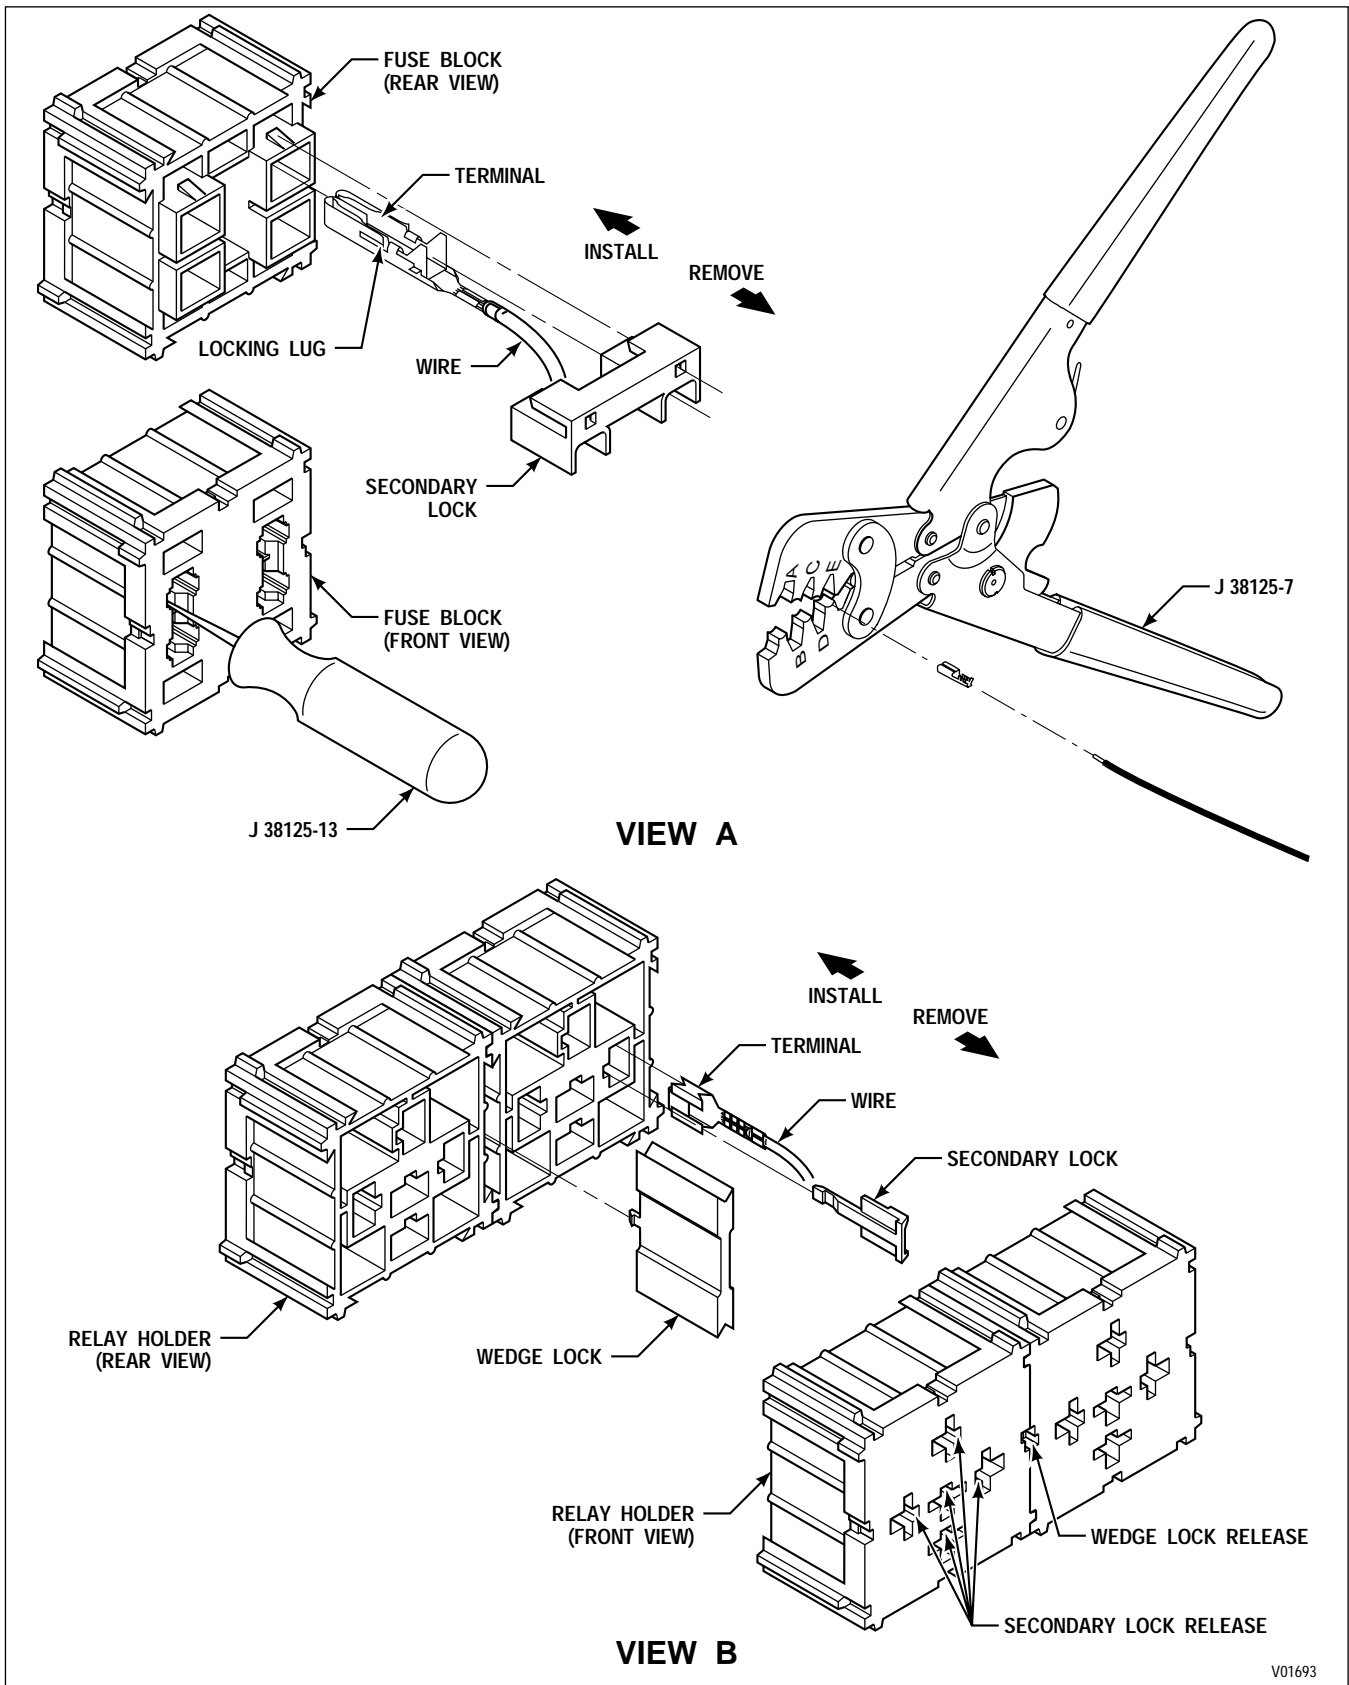

Figure E-13. Dill Connectors (Freightliner 4-Way Fuse and 5-Way Relay VIW)
B. Terminal Removal (refer to Figure E-13, Views A and B)
2. Place the core crimp portion of the terminal on the bed of the designated crimping anvil and squeeze crimper enough to hold terminal from dropping (Figure E-13, View C).